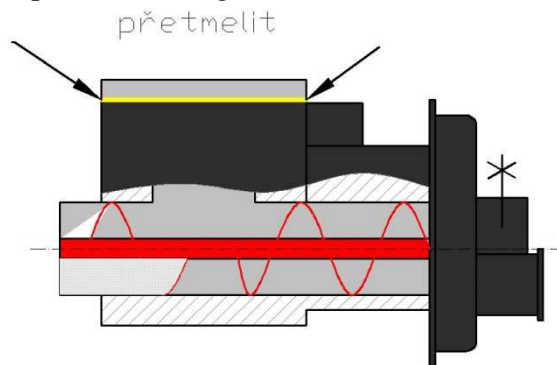

Fig. 8 Applying fresh cement to the top cast iron brace and flange
5. Apply stove cement on to the brace and return (Fig. 8)